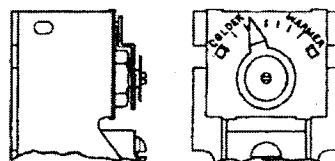
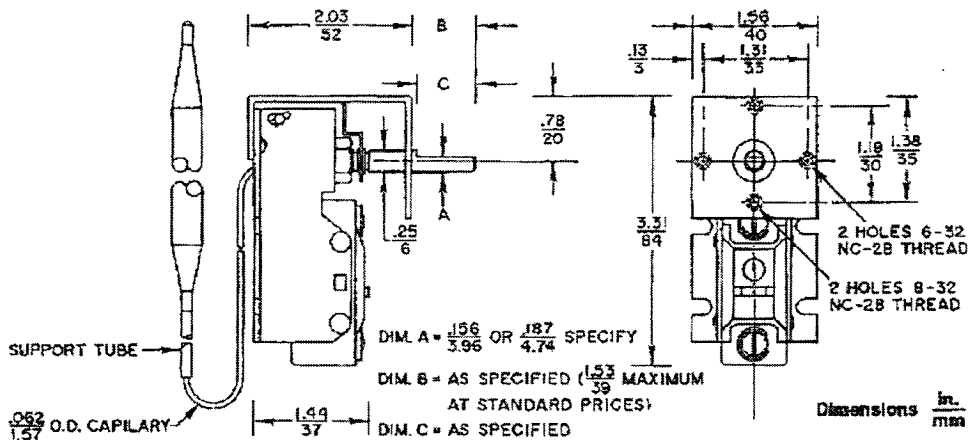

Fig. 3 — Drawing showing screwdriver slot range adjustment with stops.
Fig. 7 — Center support, front mounting bracket, optional at extra cost.
2. Screwdriver slot with stops, colder-warmer dial (Fig. 3).
Fig. 9 (right) — Clip-on terminal insulator, optional at extra cost on models specifying adjustments shown in Figs. 3, 4 and 5, but without center support mounting (Fig. 7).